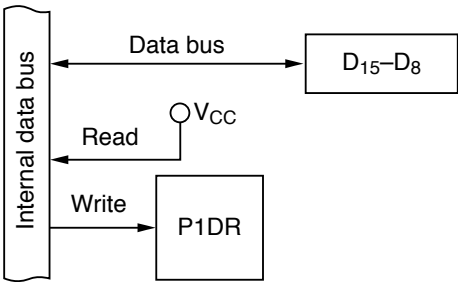

Figure 9-5 Data Bus: D_{15} to D_8 (Modes 1 to 6)
(1) Data Bus (Modes 1 to 6): Figure 9-5 shows a block diagram illustrating the data-bus function. Table 9-3 indicates register read/write data. When port 1 operates as a data bus, the values in the port 1 data register (P1DR) have no effect on the bus lines. When read, P1DR returns all 1s.